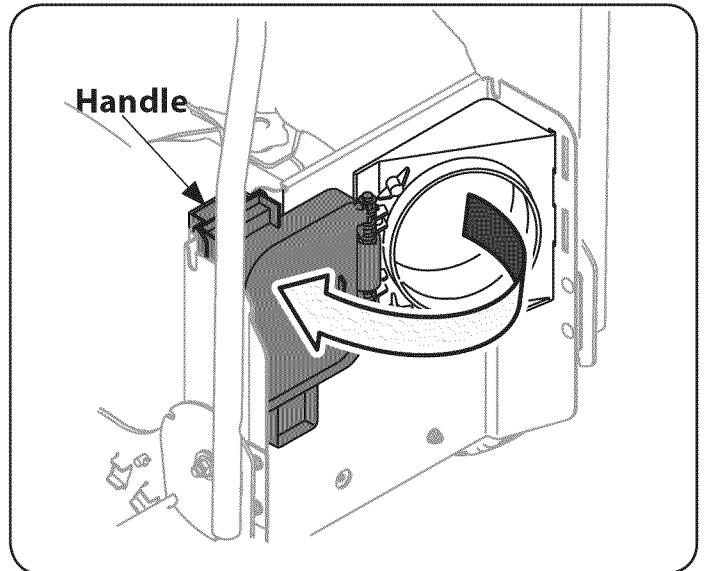

Figure 11
1. Open the rear discharge door using the door handle. See Figure 11.